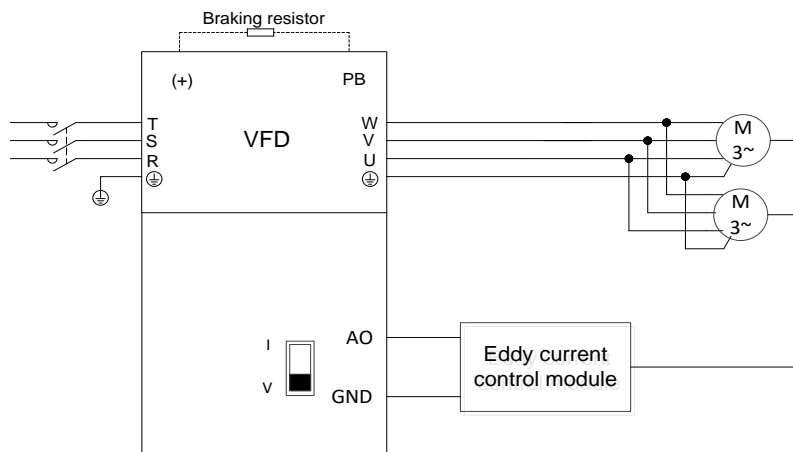

Figure 5-15 Connecting the AO terminal to the eddy current control module
1. Connect the AO terminal to the eddy current control module according to Figure 5-15 Connecting the AO terminal to the eddy current control module.